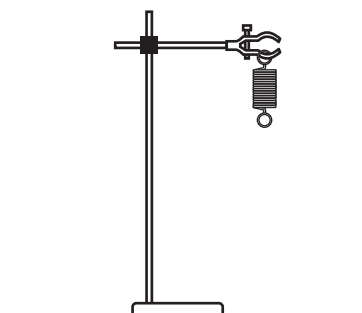

Fig. 6.1
6.1 The apparatus is to be set up for candidates as shown in Fig. 6.1.
Reset the apparatus as in Fig. 6.1 and replace the spring if it has been permanently stretched.